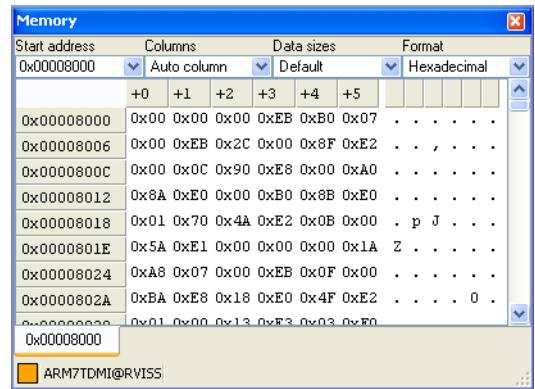

Figure 11-31 Example Memory view showing selected locations
5. Select the range of memory cells for which the breakpoint is to be set. Figure 11-31 shows an example: